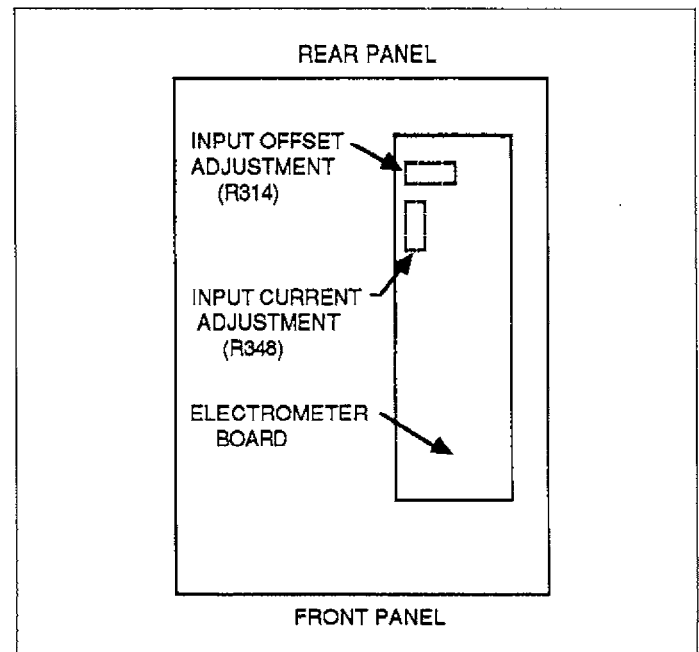

Figure 5-3. Input Offset Adjustment Locations (Model 617)
5. Locate the offset adjustment pot (R314) on the electrometer board (see Figure 5-3). The pot is accessible through a small hole in the shield closest to the rear of the instrument.
7. Locate the input current pot R348 on the electrometer board. It is accessible through a small hole in the shield (see Figure 5-3).